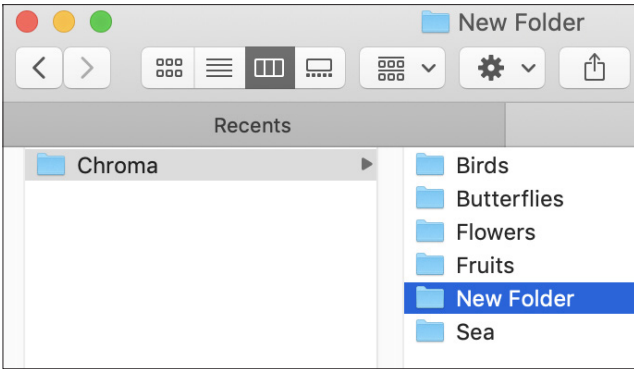

Figure 14
3. Select Designs, click Chroma. Now, you can either save a design to an existing folder or create a new folder. **See Figure 14.**